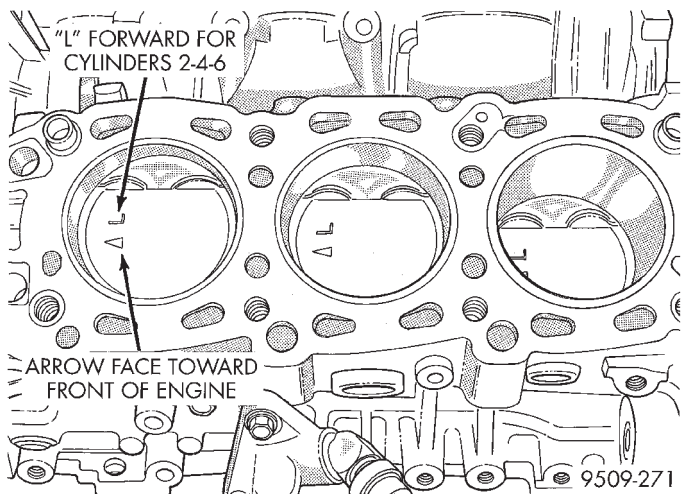

Fig. 87 Mark Pistons
(1) Remove oil pan and cylinder head(s). Refer to procedures in this section.
(2) Identify pistons with matching cylinder. **The pistons are not interchangeable from bank to bank** (Fig. 87). Pistons with the letter R and arrow toward the front of engine are to be installed in cylinders 1-3-5. Pistons with the letter L and arrow toward the front of engine are to be installed in cylinders 2-4-6.